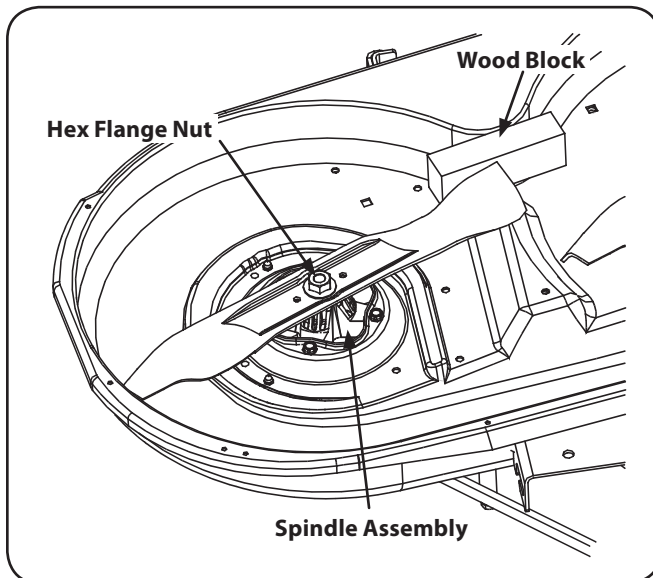

Figure 7-7
- Use a $\frac{15}{16}$ " wrench to hold the hex nut on top of the spindle assembly when loosening the hex nut securing the blade. A block of wood may be placed between the deck housing and the cutting edge of the blade to help in breaking loose the hex nut securing the blade. See Fig. 7-7.